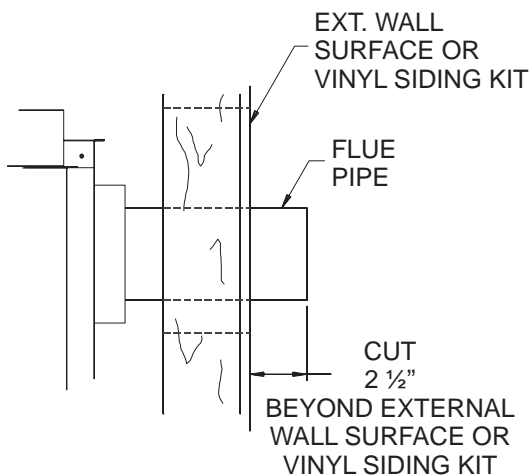
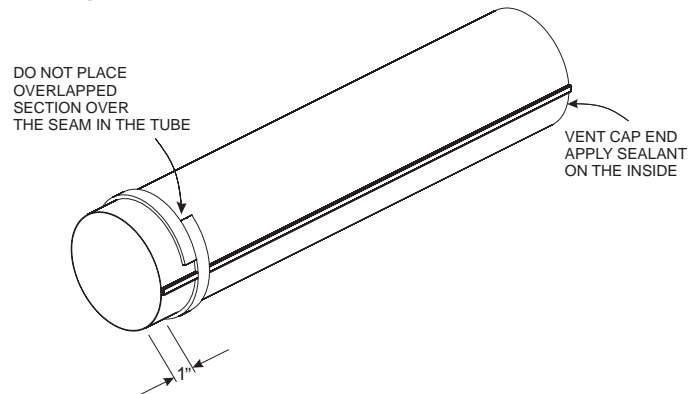

Figure 57
Figure 58
8. Attach the 4" (102mm) diameter flue outlet tube onto the rigid venting system or directly to fireplace. Ensure the 4" (102mm) diameter flue outlet tube is placed as far as possible onto the rigid venting system. Mark the 4" (102mm) diameter flue outlet tube 2 1/2" (64mm) beyond the vinyl siding kit or wall. See **Figure 57**. Remove the 4" (102mm) diameter flue outlet tube from rigid venting system. When installing directly to fireplace, tape gasket needs to be used.
10. From outside: Push the 6 5/8" (168mm) diameter inlet tube/mounting plate onto end of rigid venting system to correct position. Fasten the outside mounting plate to the vinyl siding kit or wall with (4) 10 x 1 1/2" screws. (Ensure upward slope).
11. From inside: Attach the inlet tube to the collar on the back of the fireplace (or the rigid venting system) using (3) self tapping screws.
12. Seal the 4" (102mm) diameter flue outlet tube. Follow instructions and diagram (**Figure 58**).
14. Fasten vent cap end using (3) 10 x 1/2" screws to mounting plate.
If the air inlet and flue outlet tubes are to be connected directly to the unit (no rigid venting system is being used), then the gasket provided must be used to seal the 4" (102mm) flue outlet tube. Peel the paper off the self-adhesive gasket and then wrap it around the end of the tube (if tube was cut, it is recommended to use cut end) as shown in Figure 58. Pull the gasket tight at all times while wrapping it around tube. The gasket ends should align, to form a complete seal. The overlapped section should NOT come in contact with the seam in the tube. Apply high temperature sealant to the opposite end of the tube (on the inside of the tube). The end with the gasket will attach to the back of the unit. Continue with Step 13.